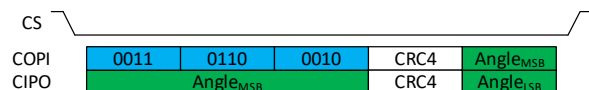

Figure 16: 20 clock cycles Read Angle
- It is possible to read a 16-bit Angle with 20 SPI clock cycles (Figure 16). In this case, though, the 4-bit Angle_{LSB} is not protected by CRC and an eventual communication error will not be detected.